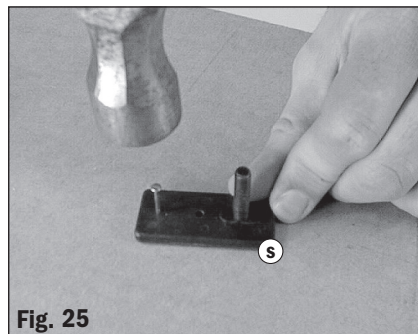

Fig. 25
2. Remove the Pivot Mount (s) from the base and fix it to the centre of your work using a small nail or screw through one of the small holes provided. **Fig. 25.** Leave the bolt fitted through the pivot mount.